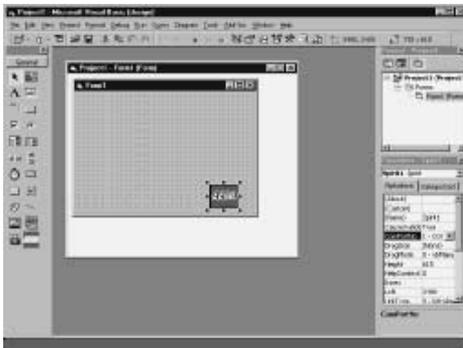

FIGURE 14.1 The test form in Visual Basic, with the *spirit.ocx* control added.
- 5.** For ease of use, make the LEGO icon about a quarter-inch square and place it in the lower-right corner, as shown in Fig. 14.1.